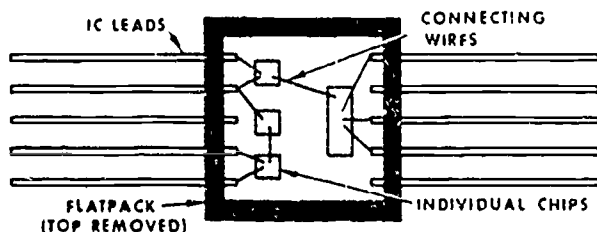

Figure 3-10. A chip and wire hybrid IC.
c. The Hybrid IC. The monolithic and thin film processes are sometimes combined to make a hybrid IC. The resulting hybrid can have the high-quality diodes and transistors formed in the monolithic IC and the high-quality resistors and capacitors formed in the thin film process. Hybrid IC's are also made by mounting individual chips, connected by fine wires, in the same package. This method, called the chip and wire method, is shown in figure 3-10. It allows more complicated circuitry and improves isolation between components.